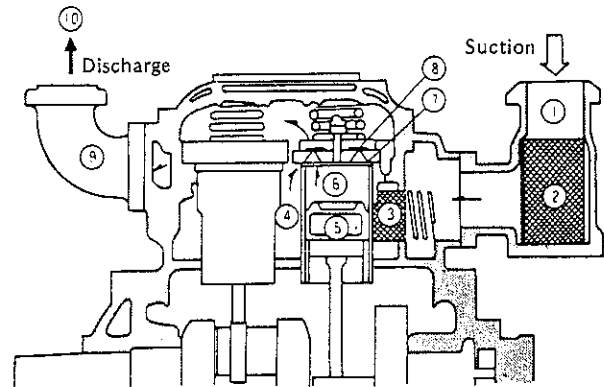

Fig. 1 Compression mechanism
2.1.1. Single stage compression (Ref. Fig. 1)